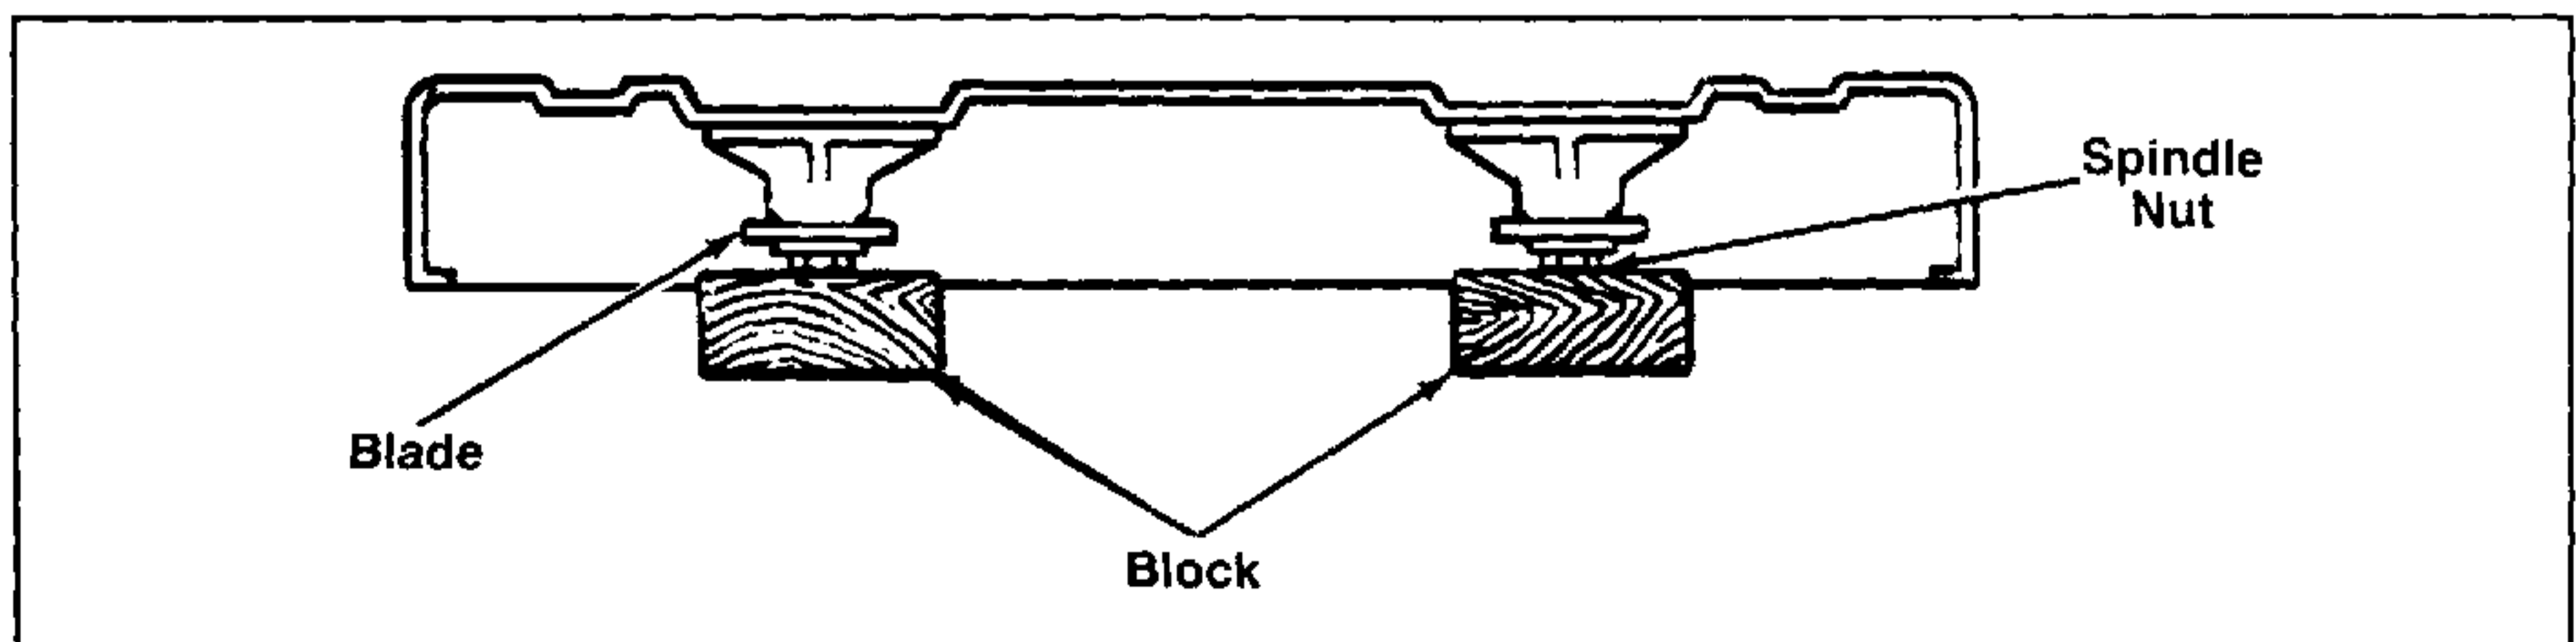

FIGURE 6.
4. Refer to figure 6. Lift the front end of the deck, and set the outside spindle nut on the face of a six inch long 2" x 4" wooden block (obtained from a wooden building stud). Repeat this step for the left spindle.